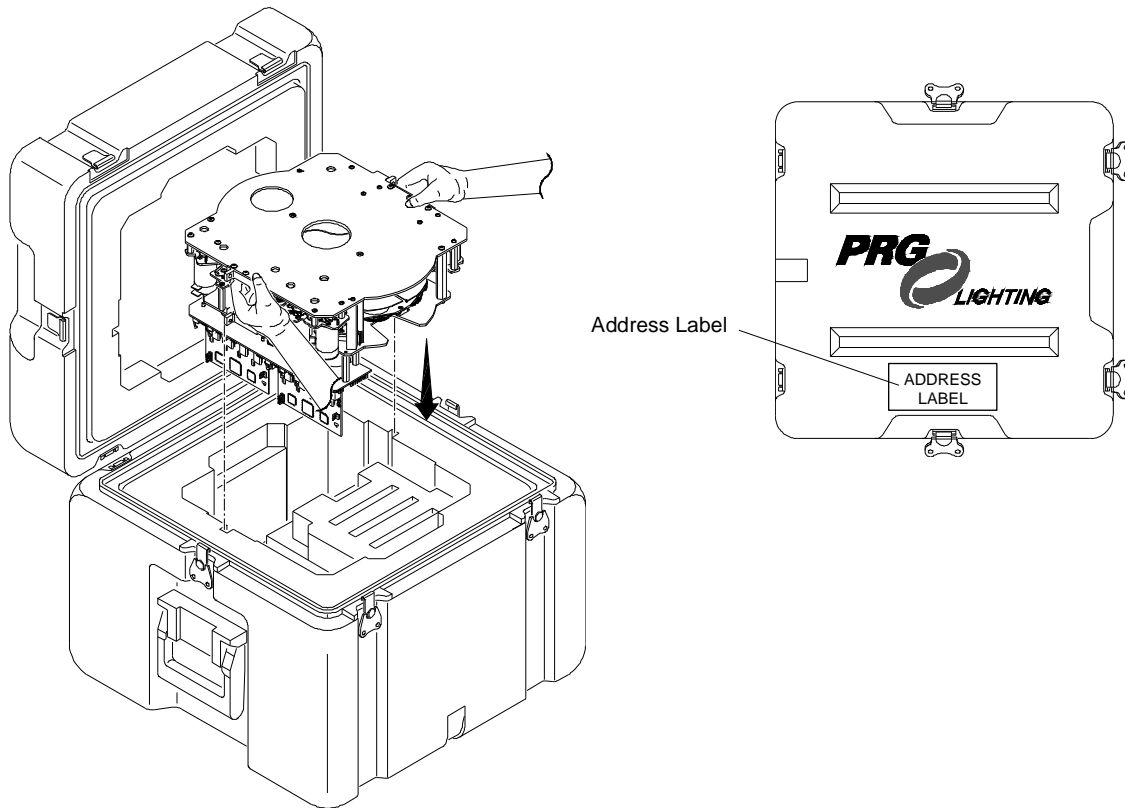

Figure 3-21: Packing Wheel Stack Road Case
- Step 1. Carefully lower Wheel Stack Assembly into road case as shown in **Figure 3-21**.